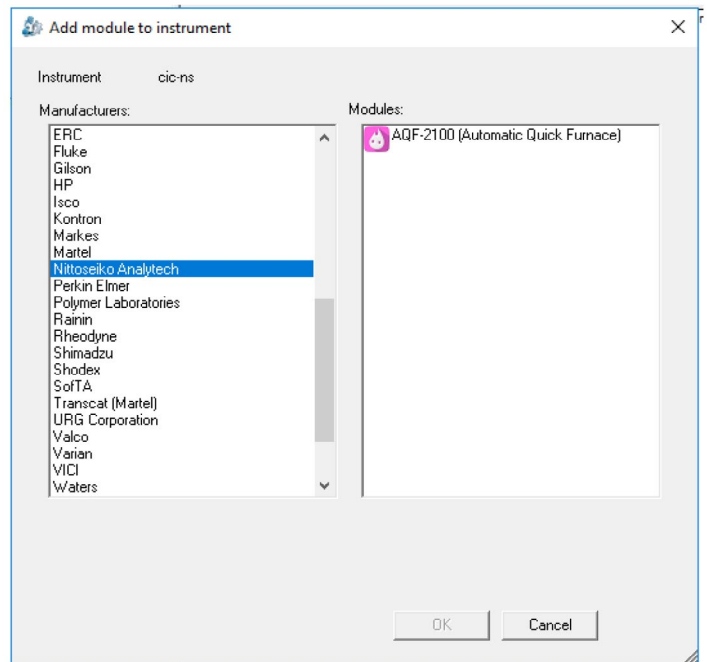

Figure 4. Adding Nittoseiko Analytech AQF-2100H module
1. Right-click and select *Add a Module, Nittoseiko Analytech, and the AQF-2100 icon* (Figure 4).